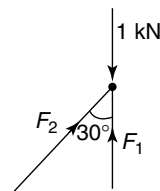

Figure 4.43
2. The value of  $F_1$  in Figure 4.43 is:
3. The value of  $F_2$  in Figure 4.43 is: